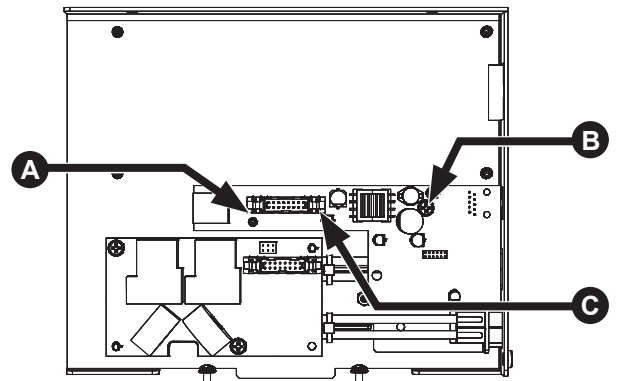

Fig. 2-24, APPS Card Standoff, Screw and Ribbon Cable Locations
2. With the front panel open, install the APPS card by pressing it firmly onto the standoff (A) and fastening the 6-32 screw (B) (see Fig. 2-24).
3. Connect the ribbon cable (C) and ensure the locking clips are closed.